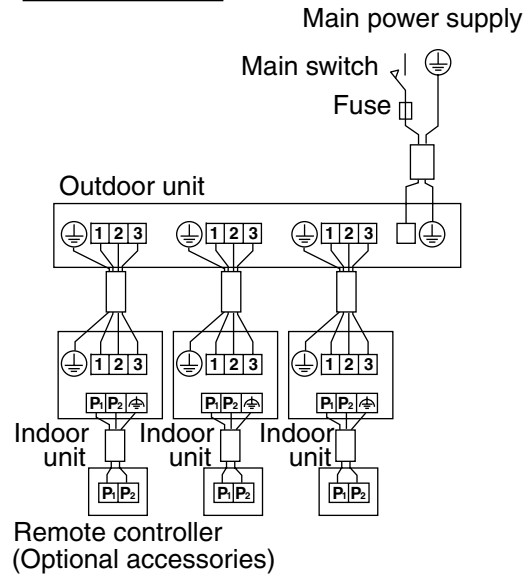

Fig. 26
- **Multi system** : 1 through 4 indoor units connect to 1 outdoor unit. The indoor unit is controlled by remote controller connected to each indoor unit. (Refer to Fig. 26)